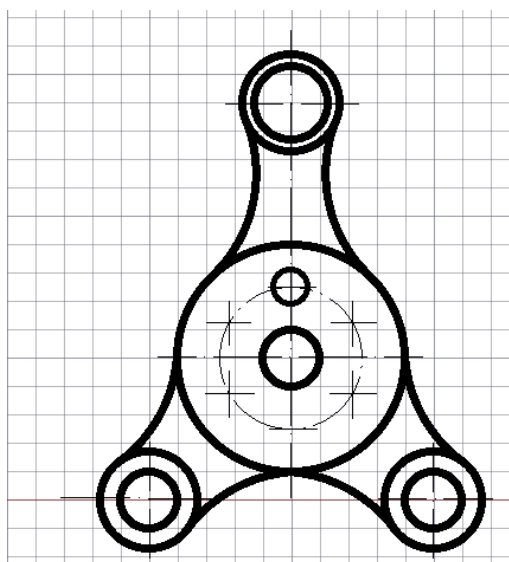

Figure 4.5 – Using a circular array
4.2.6 Next, let's take a look at arrays. Before that, set the thickness of the main lines equal to 0.5 mm, and the auxiliary ones - 0.25 mm. Selecting the element "Circle", draw a circle with a diameter of 12 mm in the upper part of the large circle, designate the thickness of the lines equal to 0.5 mm. Click in the "Editing" panel on the "Array" element, select the circular one. Click on the constructed circle and on the center point of the array, press "Enter" (figure 4.5).